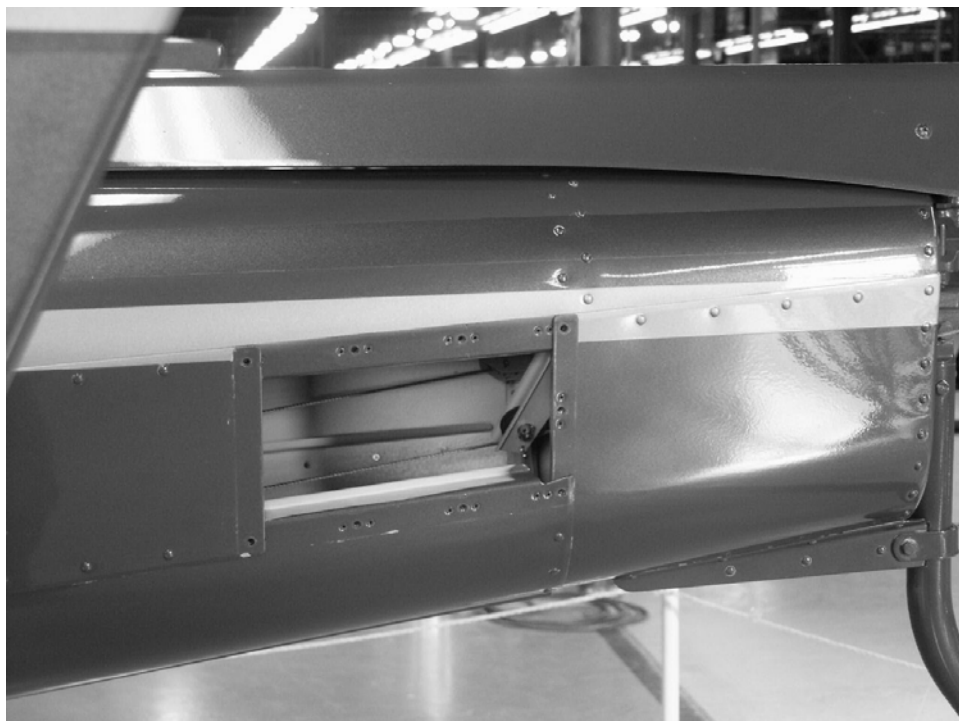

Figure 2. Access Panel Location
1. Remove the access panel located aft of the horizontal stabilizer on the left side of the tailcone (See Figure 2) and determine if the tailcone is equipped with the pulleys.